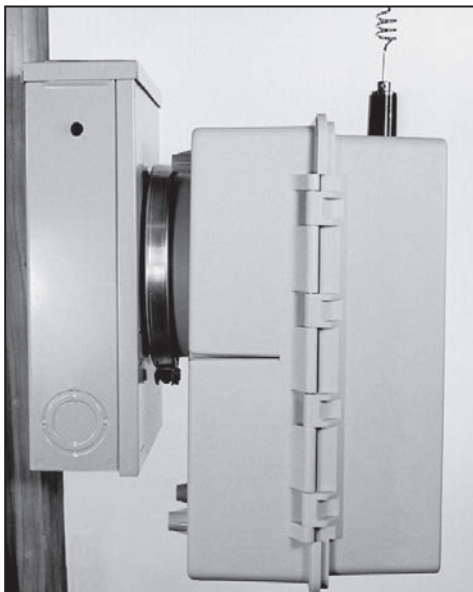

Figure 13. Side view of the capacitor control enclosure and meter base with a snap ring and crimp lock installed.
STEP 3. Plug the control into the meter base socket. See Figure 13.
Follow these steps to attach the control to the pole with either lag bolts for a wood pole or metal straps for a concrete or metal pole. See Figure 13 on page 15. Then, connect the cable as described below: